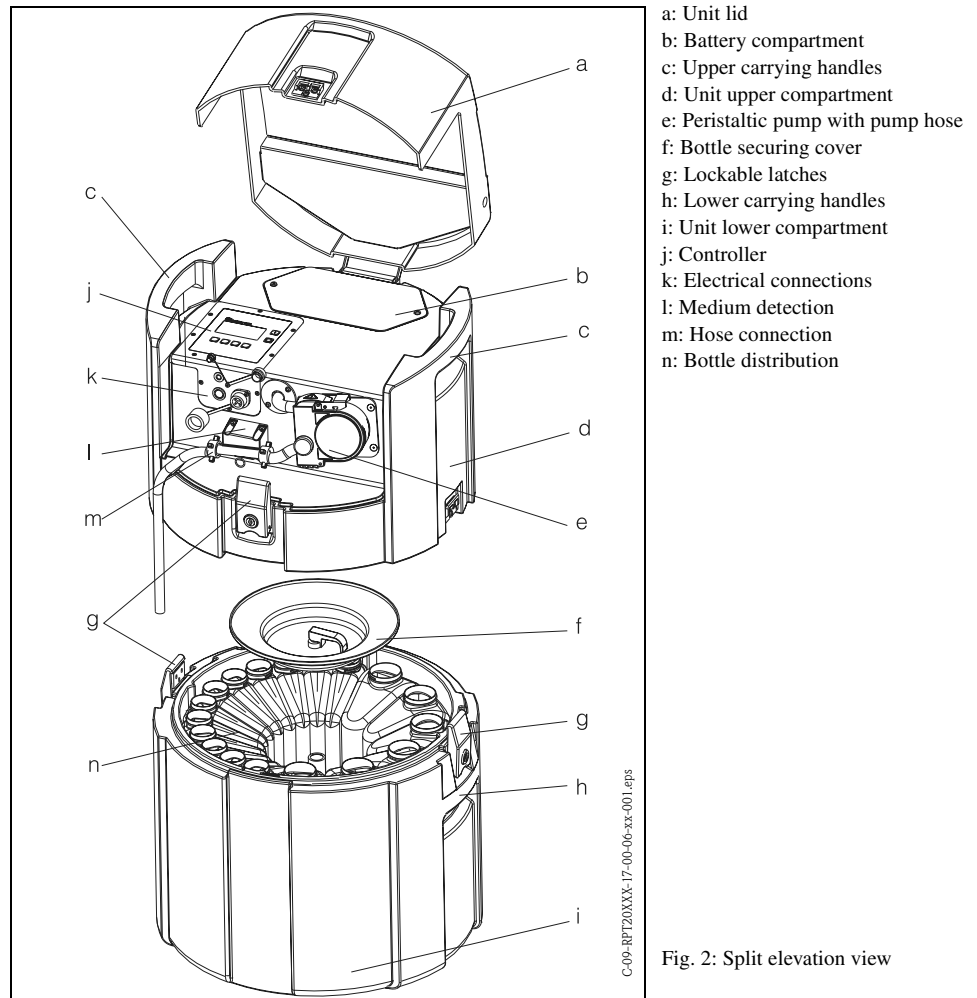

Fig. 2: Split elevation view
1. Unscrew the battery compartment cover (Fig. 2, pos. b).
5. Once the battery has been successfully connected, replace the battery compartment cover and screw down tight (Fig. 2, pos. b).
4. Screw the sampling hose to the hose connection on the unit (→ Fig. 2, pos. m).